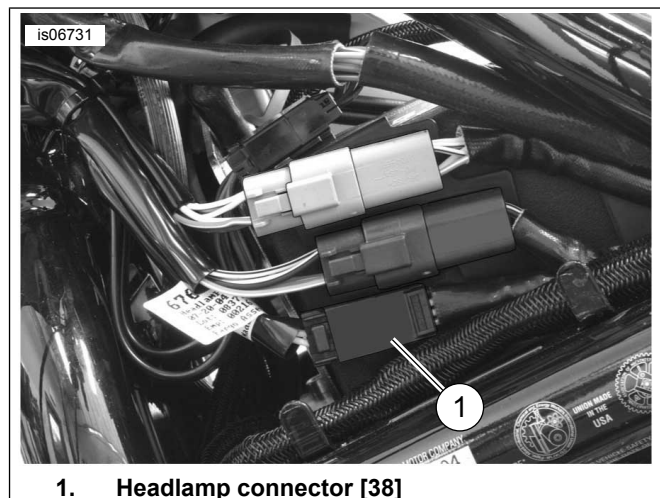

Figure 30. Wire Splice Locations (2005-Later V-Rod)
1. See Figure 30. Cut the orange/white **main vehicle harness** wire near the headlamp pin connector [38A] (1).